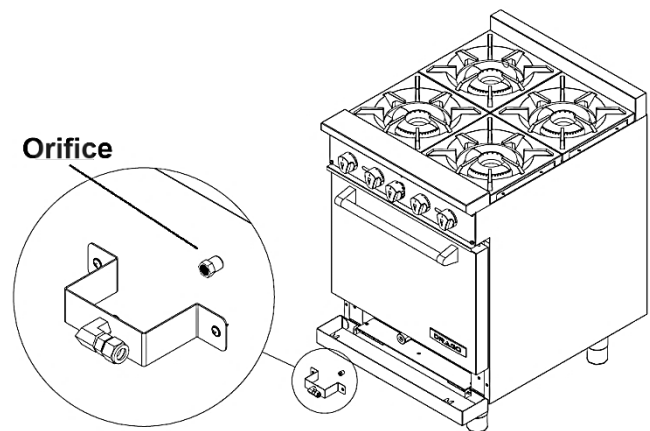

Fig. 3
5. Using a screwdriver, remove the nozzle elbow bracket, change the nozzle to the required gas type. (Fig. 3)